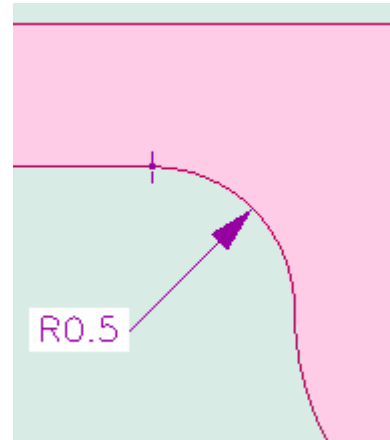

Figure 32. Handle to Head Radius.
68. Use the Arc or Fillet tool to stretch the lower intersection of the handle and the head to a $\frac{1}{2}$ " radius as shown in figure 32. You may need to use constraint dimensioning to set the radius accurately.